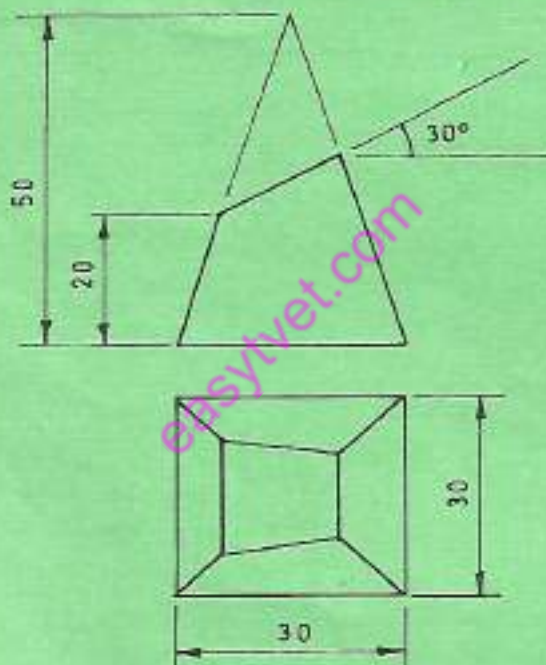

Fig. 5
14. Figure 5 shows views of truncated square pyramid. Draw the two views and its surface development. (15 marks)